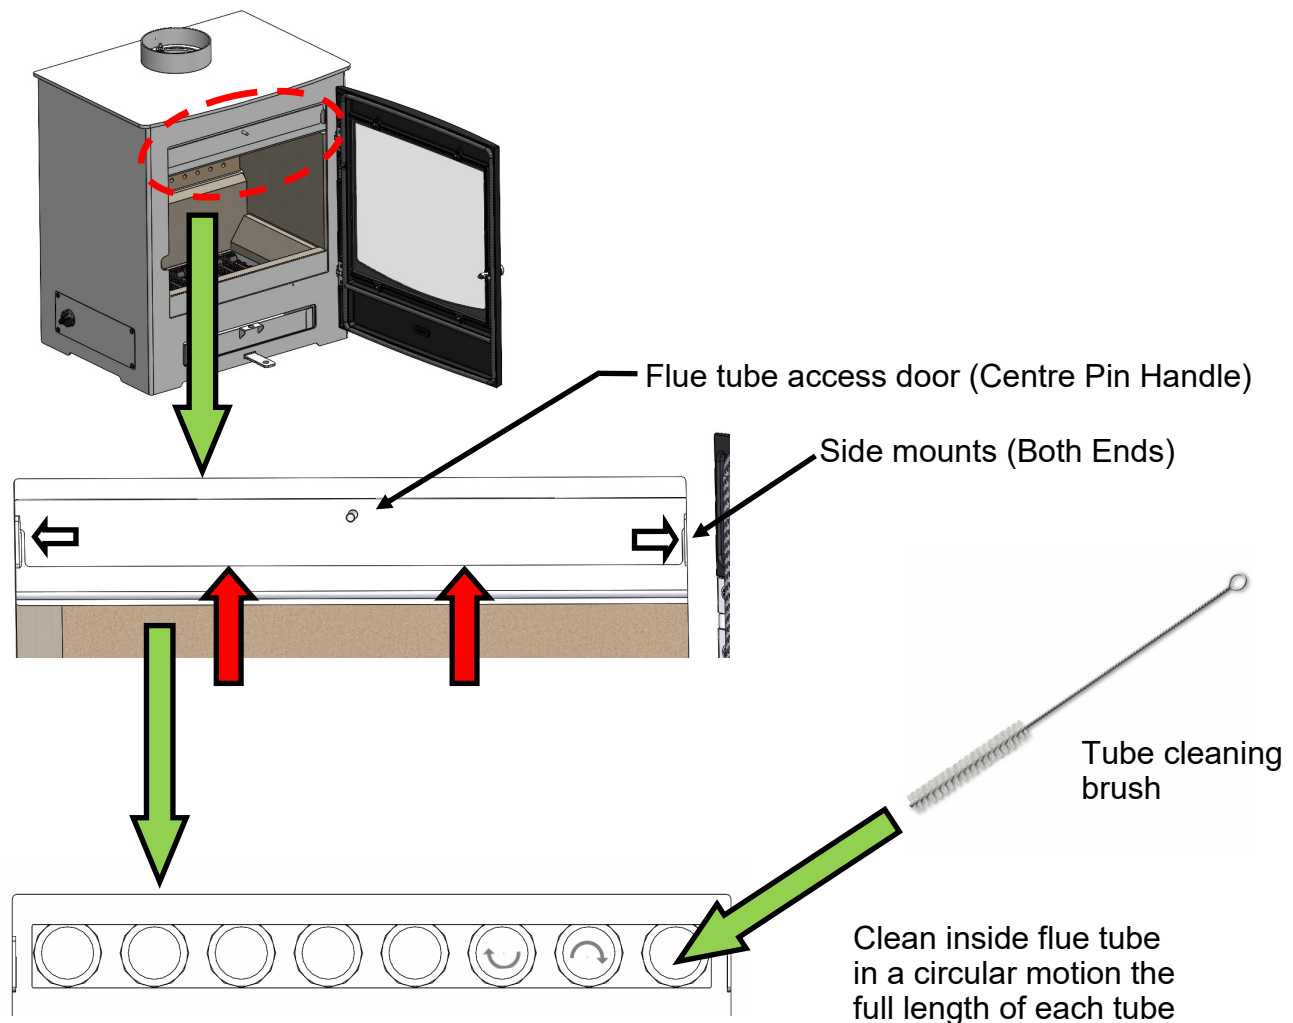

Fig. 10. Boiler Flue Tube
- Locate and remove the flue tube access door, see Fig. 10, below. Lift door from side mounts and withdraw from opening.